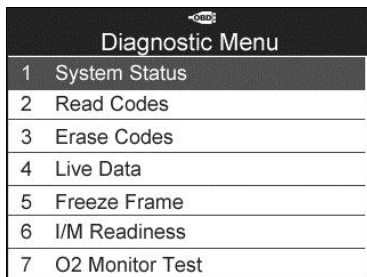

Figure 6.3
- 1) From **Diagnostic Menu**, use the **UP/DOWN** scroll button to select **Read Codes** and press the **Y** button (Figure 6.3).
- 1) Use the **UP/DOWN** scroll buttons to select **Erase Codes** from **Diagnostics Menu** and press the **Y** button (Figure 6.3).
- 1) To view live data, use the **UP/DOWN** scroll button to select **Live Data** from **Diagnostic Menu** and press the **Y** button (Figure 6.3).
- 1) To view freeze frame data, use the **UP/DOWN** scroll button to select **Freeze Frame from Diagnostic Menu** and press the **Y** button (Figure 6.3).
- 1) Use the **UP/DOWN** scroll button to select **I/M Readiness** from **Diagnostic Menu** and press the **Y** button (Figure 6.3).